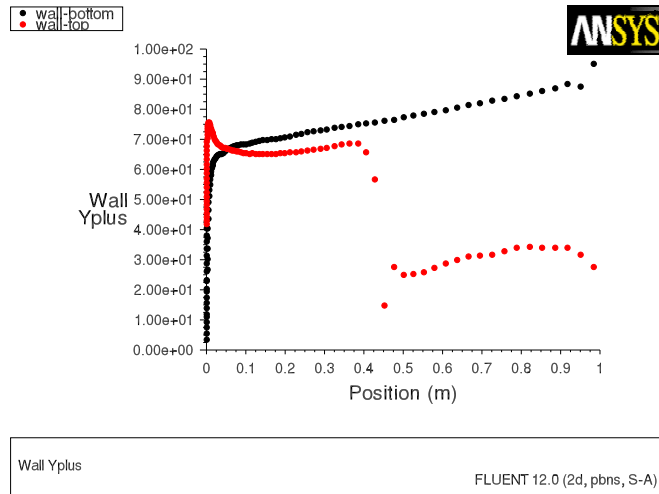

Figure 3.11: XY Plot of y^+ Distribution
- Plot the y^+ distribution on the airfoil (Figure 3.11).
Figure 3.11 indicates that, except for a few small regions (notably at the shock and the trailing edge), $y^+ > 30$ and for much of these regions it does not drop significantly below 30. Therefore, you can conclude that the near-wall mesh resolution is acceptable.